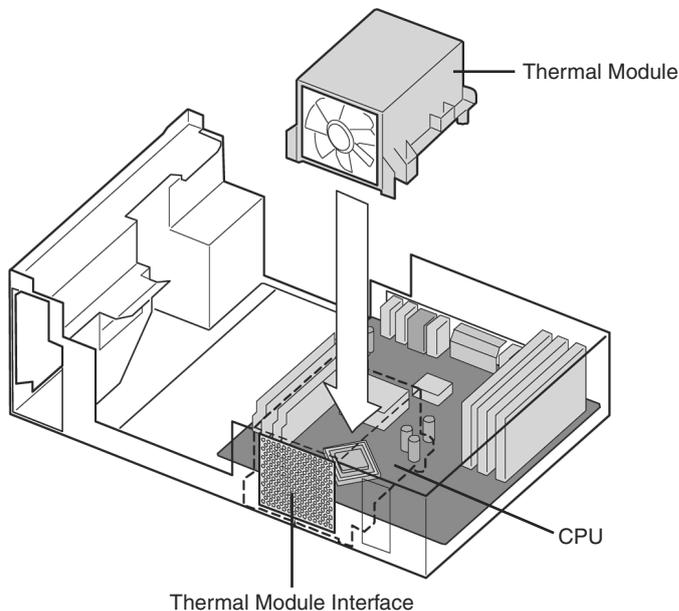

Figure 3-27 Thermal module placement on a typical BTX motherboard. Figure courtesy of www.Formfactors.org.
BTX systems use a horizontally mounted thermal module that is equipped with a fan. The thermal module also helps cool other components such as the motherboard chipset and memory. Figure 3-27 illustrates a typical thermal module installed on a motherboard. Note that the front of the thermal module extends below the edge of the motherboard to provide cooling for both top and bottom.
- Step 4.** Before attaching the heat sink or fan, determine if the heat sink has a thermal pad (also called a phase-change pad) or if you need to apply thermal compound to the processor core (refer to Figure 3-27). Remove the protective tape from the thermal pad or apply thermal compound as needed. Attach the heat sink or fan. You must use some type of thermal compound between the processor and the bottom of the heat sink.
- Step 6.** Before attaching the heat sink or fan, determine if the heat sink has a thermal pad (also called a phase-change pad) or if you need to apply thermal compound to the processor core (refer to Figure 3-27). Remove the protective tape from the thermal pad or apply thermal compound as needed. Attach the heat sink or fan. You must use some type of thermal compound between the processor and the bottom of the heat sink.